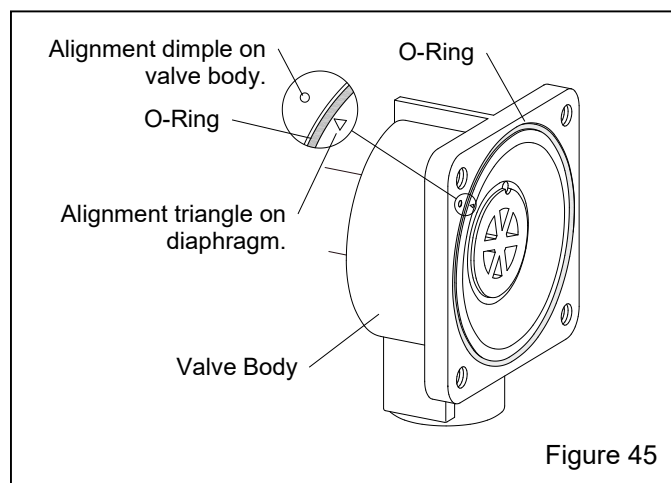

Figure 45
7.16.2 Remove the four cover screws and remove the cover, while keeping the diaphragm in place within the body. **NOTE: Before removing the diaphragm and O-ring, note the round dimple on the upper left on the valve body and the position of the triangular shape on the upper left of the diaphragm, as shown in Figure 45. When reinstalling the diaphragm, the marks must be aligned as shown.**
7.16.3 Reassemble using the new diaphragm and O-ring from the service kit, making sure the diaphragm is correctly aligned, as noted in Figures 45 and 46, and that the O-ring is seated into the groove.